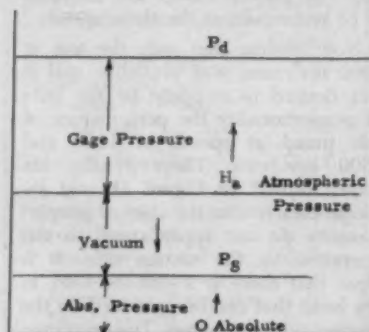

Figure 2. A pressure below that of the atmosphere may be designated in one of two ways.
When a pressure exists below that of the atmosphere it may be designated in one of two ways as (1) a vacuum, or (2) an absolute pressure. Vacuum starts with zero at atmospheric pressure and is measured down while absolute pressure starts at absolute zero and is measured upward. All of this is shown in Figure 2. As vacuum increases absolute pressure decreases.
the absolute pressure at the point of attachment. The suction manometer reading,  $\frac{P_s}{\gamma} = H_a - (H_{st} + H_f + \frac{C_s^2}{2g})$ , is of course the absolute pressure as in Figure 2.